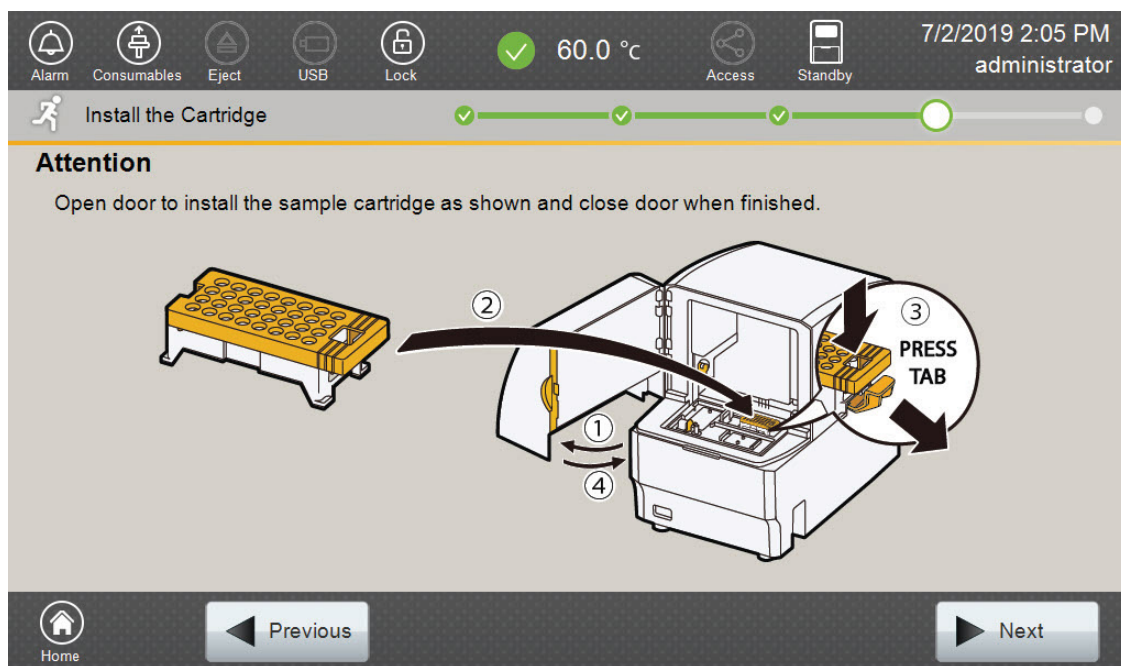

Figure 20. ‘Install the Cartridge’ screen.
2. Open the instrument door, and then place the sample cartridge on the autosampler, following the instructions displayed on the ‘Install the Cartridge’ screen (Figure 20). Press down on the yellow tab on the autosampler deck that locks the sample cartridge in place before placing sample cartridge into position. Release the tab to lock the sample cartridge in place on the autosampler deck.